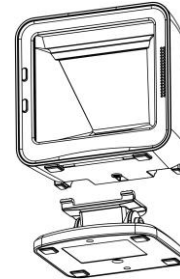

Figure 2-1
1. As shown in Figure 2-1, plug in two connection-arms to the two associated notches on the bottom of the image platform.